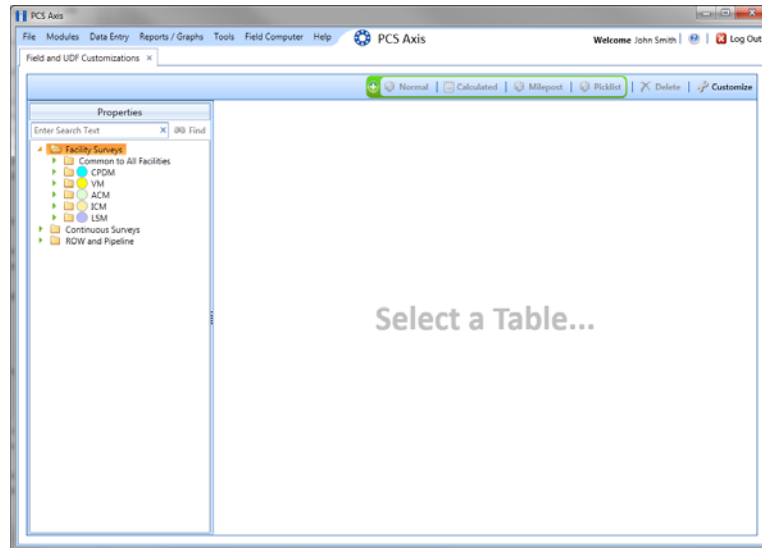

Figure 2-18. Field and UDF Customizations
- 1 Click **Tools > Field and UDF Customizations** to open the *Field and UDF Customizations* window (Figure 2-18).
- 1 Click **Tools > Field and UDF Customizations** to open the *Field and UDF Customizations* window (Figure 2-18, page 49).
- 1 If the *Field and UDF Customizations* window is not open, click **Tools > Field and UDF Customizations** (Figure 2-18, page 49).